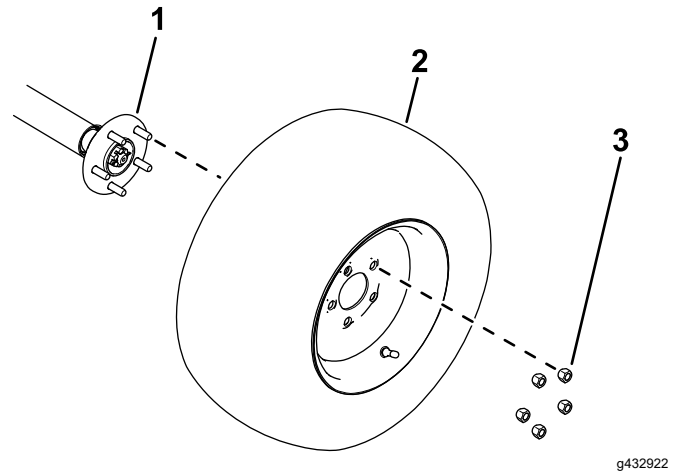

Figure 4
1. Loosen and remove the wheel lug nuts (Figure 4).
2. Remove the wheels from the wheel hubs (Figure 4).